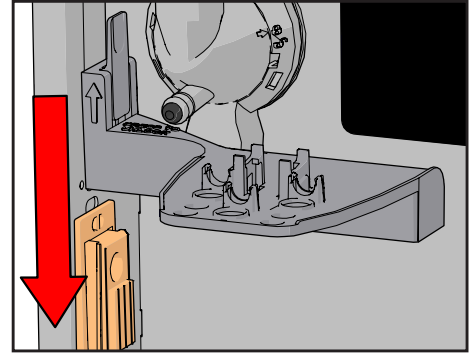

Figure 51.
18. Click the spout arm back onto the cabinet (see Figure 51).